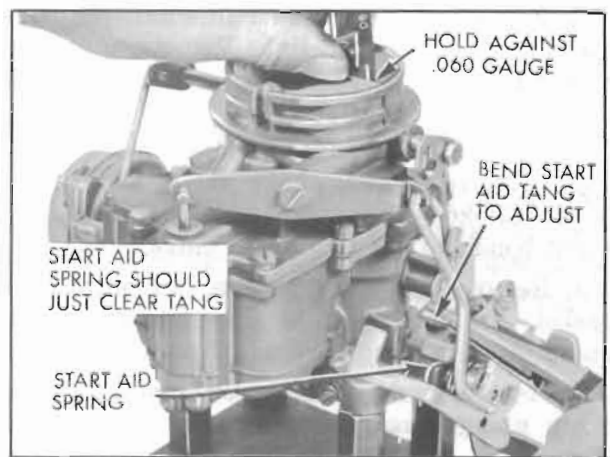

Figure 3-68—Start Aid Adjustment
9. Hold choke valve closed on .061" Gauge (No. 53 drill). As throttle valve is opened, start aid spring should just clear start aid tang on fast idle cam. Bend start aid tang as required to obtain proper setting using needle-nose pliers. See figure 3-68.